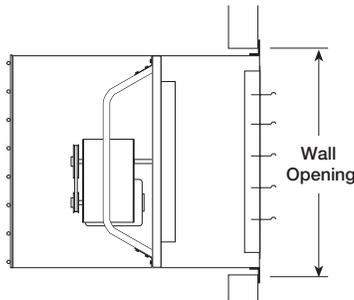
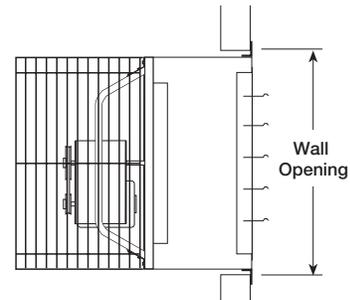

Figure 1 - Wall Housing Installation
Figure 2 - Wall Collar Installation
**Figure 1 and 2** show the wall opening required for installations with either a wall housing or collar.
Move fan to the desired location and determine the method by which the fan is to be mounted as shown in Figures 1-4 shown on page 3. Optional wall mount housings (Figure 1) and wall mount collars (Figure 2) provide a convenient means of mounting sidewall propeller fans while maintaining the proper distance between propeller and damper.